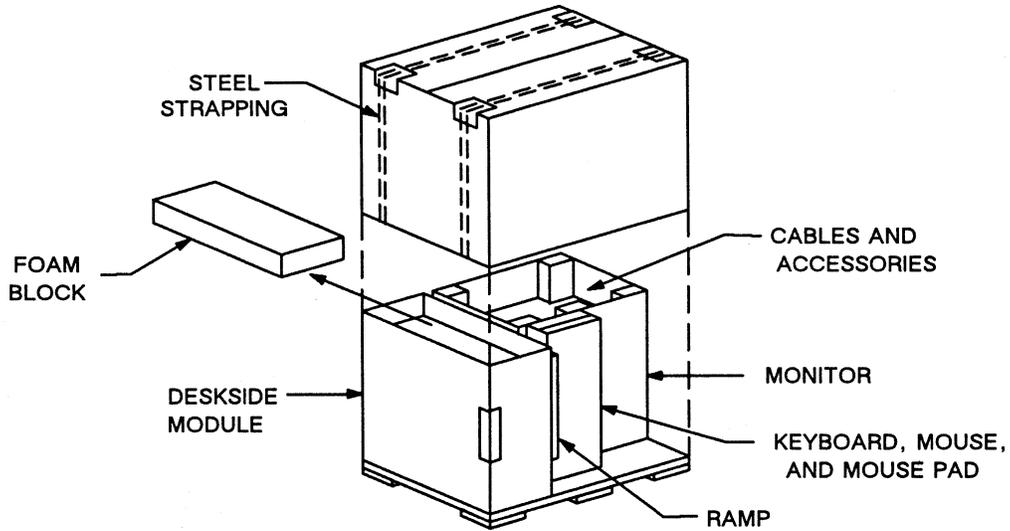

Figure 1-1. Shipping Configuration for Model 32 and 31 CADDStations
1. Cut the two steel straps that secure the box to the pallet. See Figure 1-1.
Figure 1-1 shows the shipping configuration for Model 32 and 31 CADDStations.